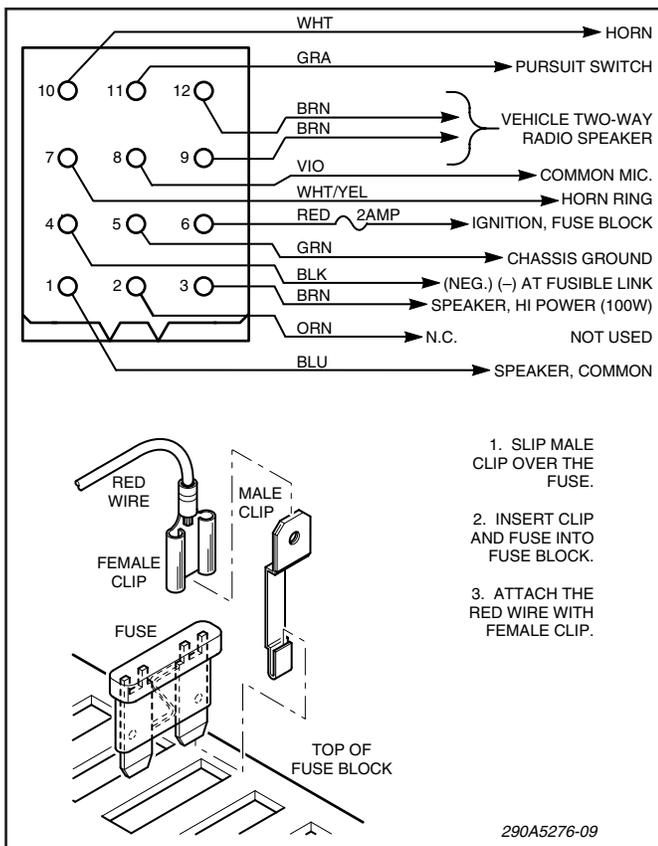

Figure 3-8.
The unit is designed to operate with one 11-ohm impedance speaker or two 11 ohm impedance speakers connected in parallel and in phase. On Federal speakers, this can be accomplished by connecting the two speaker leads marked "1" to the SPEAKER COMMON power cable lead and the two speaker leads marked "2" to the SPEAKER HI power cable leads. See figure 3-8.
Connect the speaker leads (18 gauge wire) as shown in figure 3-8.
See figure 3-8. To allow incoming radio messages to be rebroadcast over the outside speakers, connect the two brown zip cord leads (twelve-pin connector, pins 9 and 12) across the two-way radio's speaker.
See figure 3-8. To use this feature, connect the power cable’s gray wire to a vehicle circuit that is grounded when the vehicle is shifted into PARK.
7. Connection to Power Source (see figure 3-8).
Route the red (+) power cable lead to the fuse block or user-supplied switch. When the red (+) power cable lead is routed to the fuse block, install the supplied fuse clip adapter as follows (see figure 3-8):